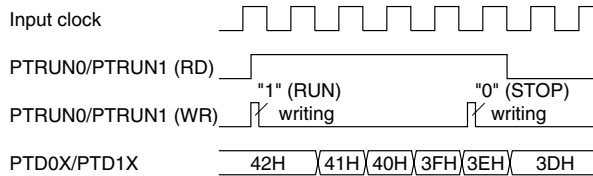

Fig. 5.2.1 Timing chart for RUN/STOP control
- (1) When reading counter data, be sure to read the low-order 4 bits (PTD00–PTD03, PTD10–PTD13) first. Furthermore, the high-order 4 bits (PTD04–PTD07, PTD14–PTD17) should be read within 0.73 msec (when fosc1 is 32.768 kHz) of reading the low-order 4 bits (PTD00–PTD03, PTD10–PTD13).
- (2) The programmable timer actually enters RUN/STOP status in synchronization with the falling edge of the input clock after writing to the PTRUN0/PTRUN1 register. Consequently, when "0" is written to the PTRUN0/PTRUN1 register, the timer enters STOP status at the point where the counter is decremented (-1). The PTRUN0/PTRUN1 register maintains "1" for reading until the timer actually stops. Figure 5.2.1 shows the timing chart for the RUN/STOP control.